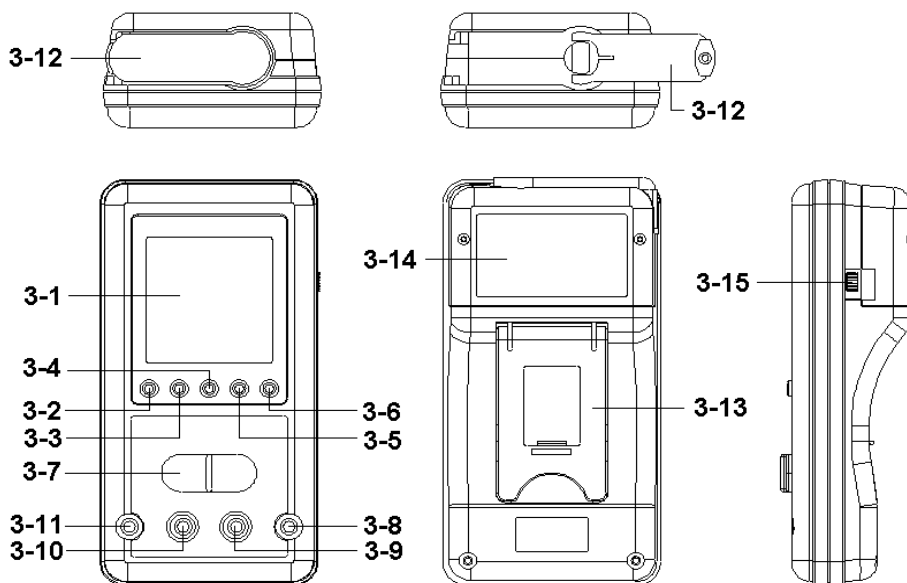

Fig. 1
- 1) Select the " Power type switch " ( 3-15, Fig. 1 ) to the " G position " ( Green power position ).
There is a " Power generator's handle " ( 3-12, Fig. 1 ) on the top of the housing case.
- 1) Install the " DC3V battery ( CR-2032 ) x 2 PCs " into the " Battery compartment " ( 3-14, Fig. 1)
- 1) Pressing the " Power On button " ( 3-2, Fig. 1 ) once, the meter will be power On.
- 1) Connect BLACK test lead into " COM " terminal ( 3-9, Fig. 1 ).
- 2) Connect RED test lead into " V " terminal ( 3-8, Fig. 1 ).
- 3) Select the " Function switch " ( 3-7, Fig. 1 ) to the " V " position.
- 4) Power On the meter by pressing the " Power On button " ( 3-2, Fig. 1 ) once, the Display will show " SMART ", the meter is under " Smart " mode for voltage measurement.
- 2) Connect RED test lead into "  $\Omega$  " terminal ( 3-8, Fig. 1 ).
- 3) Select the " Function switch " ( 3-7, Fig. 1 ) to the "  $\Omega$  " position.
- 4) Power On the meter by pressing the " Power On button " ( 3-2, Fig. 1 ) once, the Display will show " SMART ", the meter is under " Smart " mode for resistance measurement.
- 3) Select the " Function switch " ( 3-7, Fig. 1 ) to the "  $\cdot|)$  " position.
- 4) Power On the meter by pressing the " Power On button " ( 3-2, Fig. 1 ) once, the Display will show " SMART ", the meter is under " Smart " mode for Continuity measurement.
- 3) Select the " Function switch " ( 3-7, Fig. 1 ) to "  $\rightarrow|+$  " position.
- 4) Power On the meter by pressing the " Power On button " ( 3-2, Fig. 1 ) once, the Display will show " SMART ", the meter is under " Smart " mode for Diode measurement.
- 3) Select the " Function rotary switch " ( 3-7, Fig. 1 ) to the "  $\text{||}$  " position.
- 4) Power On the meter by pressing the " Power On button " ( 3-2, Fig. 1 ) once, the Display will show " SMART ", the meter is under " Smart " mode for capacitance measurement.
- 2) Connect RED test lead into " mA " terminal ( 3-10, Fig. 1 ).
- 3) Select the " Function switch " ( 3-7, Fig. 1 ) to the " mA " position.
- 4) Power On the meter by pressing the " Power On button " ( 3-2, Fig. 1 ) once, the Display will show " SMART ", the meter is under " Smart " mode for AC mA, DC mA measurement.
- 2) Connect RED test lead into " 10 A " terminal ( 3-11, Fig. 1 ).